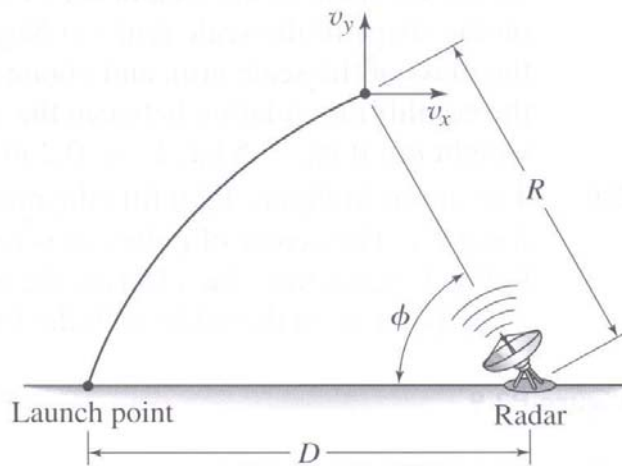

Figure 1
1. A radar tracks the flight of a projectile (see Figure 1). At time t , the radar measures the horizontal component $v_x(t)$ and the vertical component $v_y(t)$ of the projectile's velocity and its range $R(t)$ and elevation $\pi(t)$. Are these measurements sufficient to compute the horizontal distance D from the radar to the launch point of the projectile? If so, derive the expression for D as a function of g and the measured values $v_x(t)$, $v_y(t)$, $R(t)$, and $\pi(t)$.